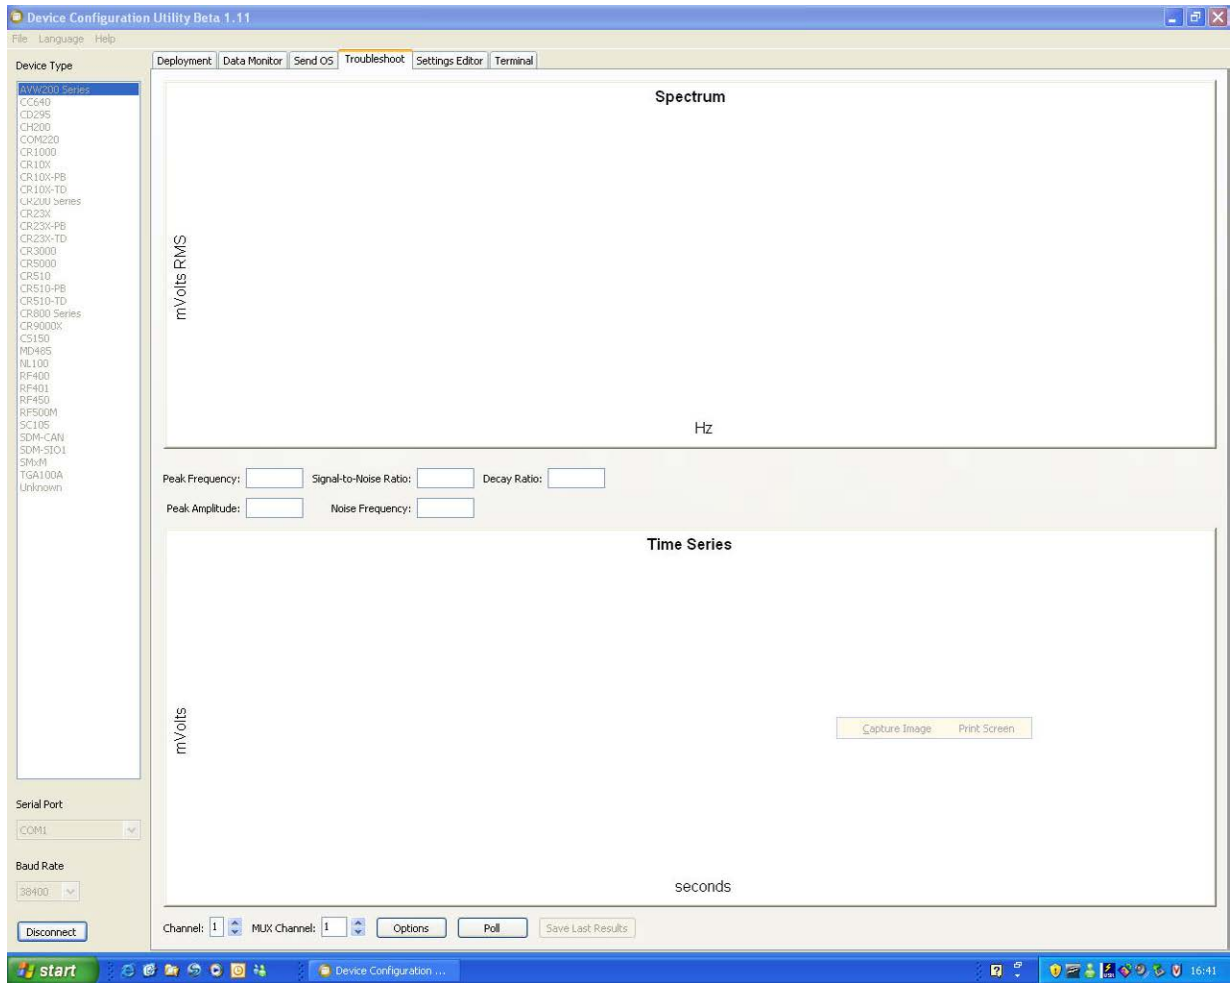

FIGURE 5-7. Opening Page of the Troubleshoot Tool
2. Click the Troubleshoot tab at the top of the DevConfig opening window (FIGURE 5-7).